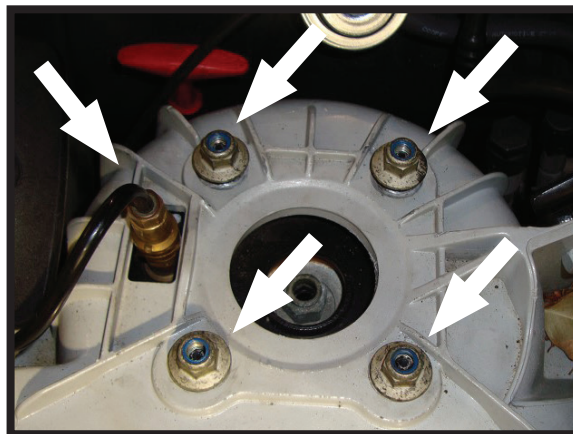

FIGURE 5
- DISCONNECT THE AIR LINE FROM THE CHECK VALVE AND THE FOUR (4) SHOCK MOUNTING NUTS. TUCK UNUSED AIRLINE INTO SUITABLE LOCATION (AWAY FROM MOVING PARTS AND SOURCES OF HEAT). (FIGURE 5)